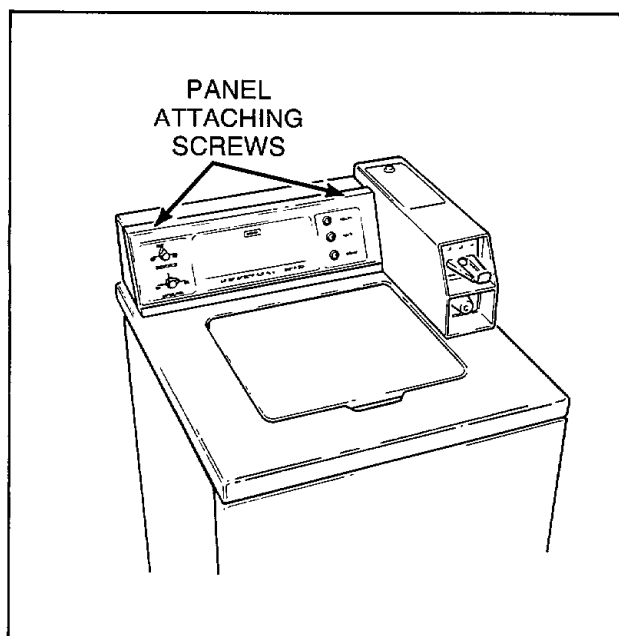

Figure 1
### 1. CONTROL PANEL (Refer to Figure 1)
- Remove two control panel attaching screws, *Figure 1*, and lift assembly off panel support.